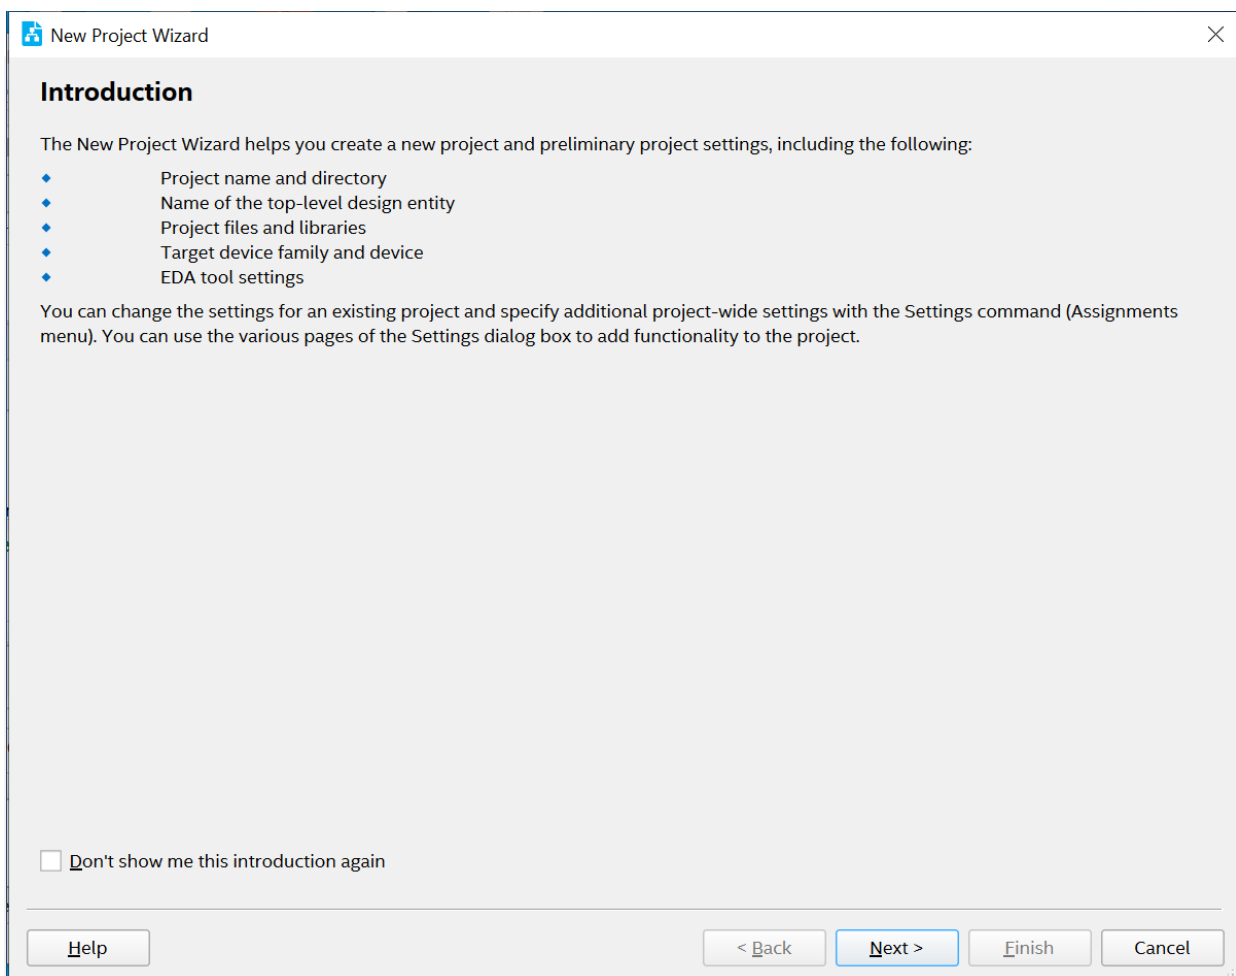

Figure 2-1 New Project Wizard introduction
1. In the Quartus Prime Pro software, select **File --> New Project Wizard**. The Introduction page opens as shown in **Figure 2-1**.